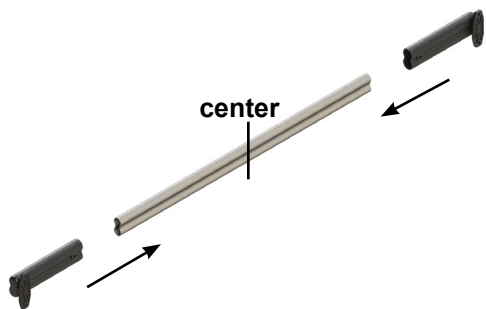

Fig.23
1. Measure to find center point on the push bar. Mark the center point with a non-permanent marker (Fig. 23).
2. Slide sleeves over the ends of the push bar (Fig.23).